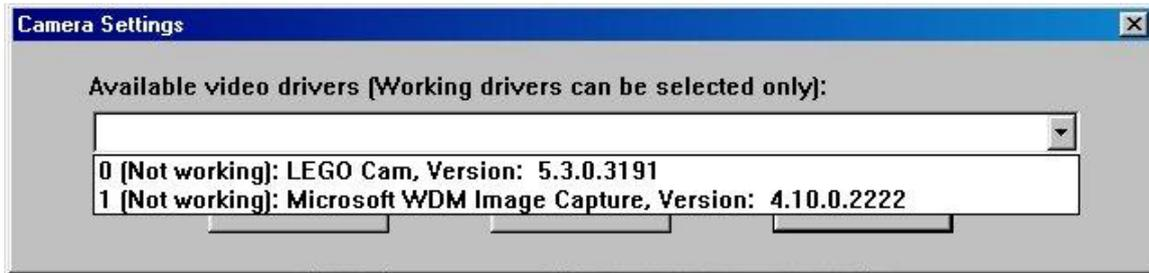

Figure 18)
- 9) The user can check the camera settings, by pressing the “Advanced Settings Remote Reset” button, which should pop up the window shown in Figure 18. If the image is either black or does not update, then the first thing to do is either to reboot the computer or to select this camera-control button.